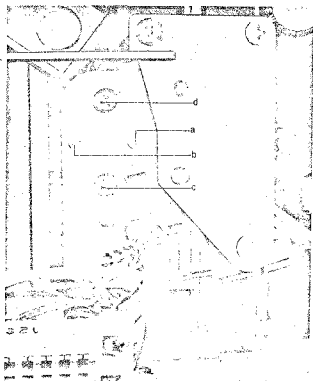

Fig. 5
Connect a High Sensitivity V.T.V.M. (Model 161 A) to the Line Output. Playback Program 3 of an 8,000 Hz pre-recorded tape and adjust Screw (c) shown in Fig. 5 so that the V.T.V.M. indication is maximum.
- 2) Playback Program 2 of \*Test Tape and adjust Screw (d) shown in Fig. 5 so that the V.T.V.M. indication is minimum.
- 4) The adjustments outlined in items 2) and 3) above will result in ideal head height position and minimize cross talk.